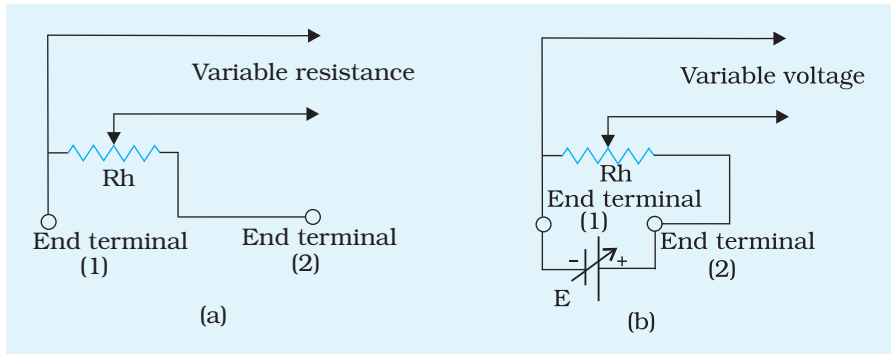

Fig. A 2.2 (a) Rheostat as a variable resistor
1. Draw a diagram as given in Fig. A 2.2 (a) showing use of a rheostat as a variable resistor.
- Draw a diagram as given in Fig. A 2.2 (b) showing use of a rheostat as a potential divider.
- Connect the terminals of rheostat as drawn above using (i) the end terminals (1) and (2) connected to input potential (battery) and (ii) one end terminal and the other variable terminal for variable voltage.
1. (a) Rheostat can be used in series as a variable resistance. In this case, the end terminal (1) and the other variable terminal is to be used [Fig. A 2.2(a)].
(b) When rheostat has to be used as a potential divider across the cell, the variable voltage is derived using any one end-terminal and the variable terminal of the rheostat [Fig. A 2.2(b)].